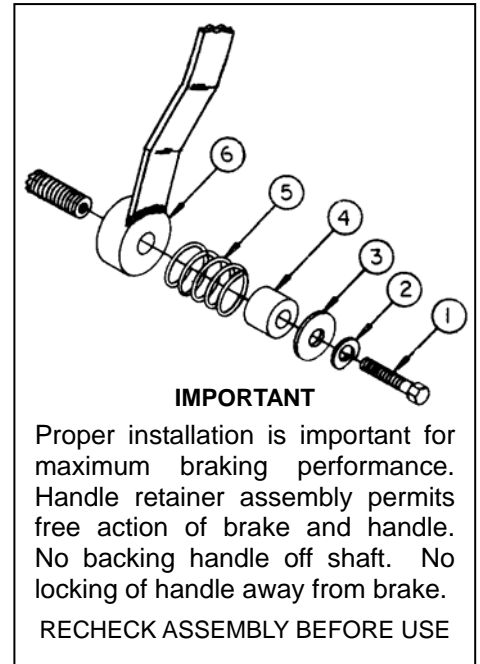

Fig. 1: Handle Retainer Assembly
- A. HANDLE. Insert handle (item 6, Fig. 1) on threaded brake assembly shaft. Thread handle to point of engagement (touching) of brake pad.
- B. HANDLE RETAINER ASSEMBLY. Insert Bolt (Item 1, Fig. 1) through lockwasher (Item 2, Fig. 1), flatwasher (Item 3, Fig. 1), spacer (Item 4, Fig. 1) and spring (Item 5, Fig. 1- spring will fit over spacer). Recheck Fig. 1 to ensure proper order of assembly.
Install bolt containing assembled retainer parts (Fig. 1) into threaded end of brake shaft and tighten bolt securely.